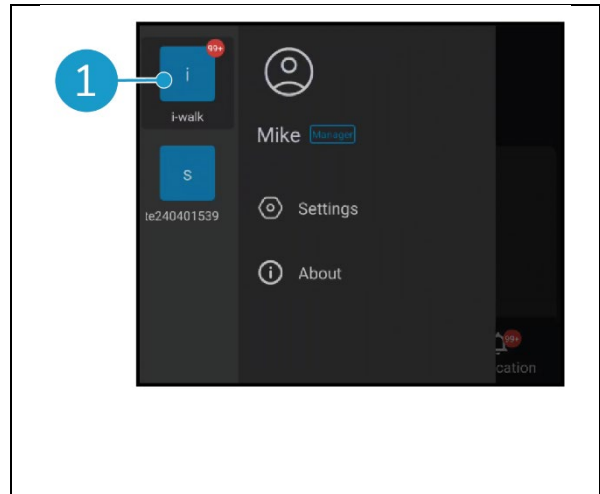

Figure 30
- Tap any available site (Figure 30, pos. 1) to go the Overview for that site.